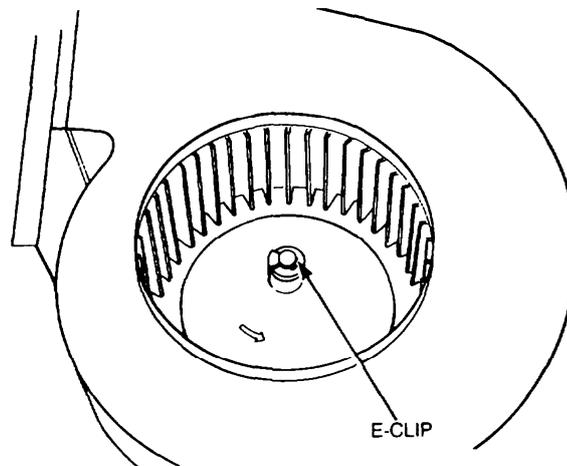

Figure 236 Heater Motor and Fan Removal
- e. Remove the E-clip securing the fan to the motor shaft (Figure 236).